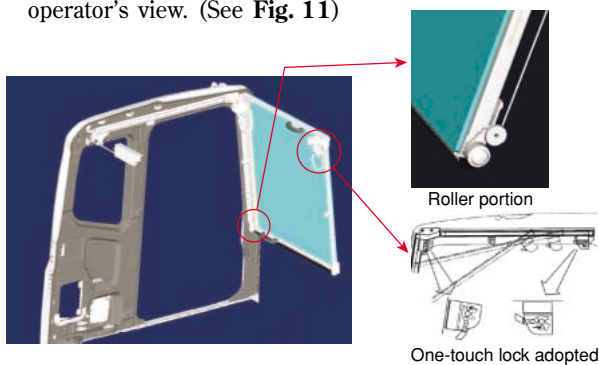

Fig. 11 Contrivance for Opening/Closing Front Window
(4) Another feature about the operator's cab is an adoption of a large capacity fully automated air conditioner as part of the standard specifications. Thanks to the device, an operator can enjoy the same comfortable operating environment throughout the year. The new air conditioner has increased its air tightness to prevent the entry of fine dusts. When it is set in the air intake mode, the air pressure level inside the cab clears 5 mmAq specified in the ISO Standard for pressurizing air to check entry of dusts from the outside. It is for the first time that an air conditioner of this class has conformed to the standard.
(5) The last improvements to introduce are that the operator's cab is newly equipped with a one-touch lock to facilitate opening and closing of the front window and an assist-pushup mechanism to lessen force needed when pushing up the front window; and that a pocket is provided behind the operator's seat for storing the detached lower window pane. Safely put in the space, it does not block the operator's view. (See Fig. 11)